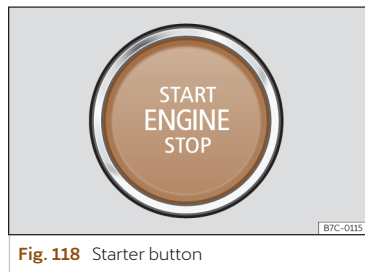

Fig. 118 Starter button
When entering the vehicle, the start button >>> **Fig. 118** flashes to draw attention to it.
- Press the start button >>> **Fig. 118** without pressing the accelerator. There must be a valid key in the vehicle for the engine to start. After starting the engine, the lighting of the START ENGINE STOP button remains fixed indicating that the engine is running¹⁾.
- Briefly press the start button >>> **Fig. 118.**